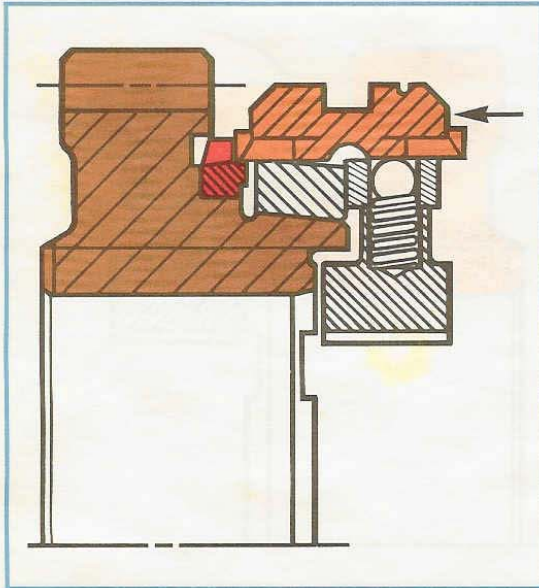

Figure 1-58, Sleeve and Clutch Tooth Chamfers in Contact.
- When there is no difference in rotating speed between the speed gear and the blocking ring/sleeve, the sleeve chamfers easily slide past the tooth chamfers of the blocking ring as the sleeve makes its way to the speed gear (Figure 1-58). The synchronizer sleeve tooth chamfers now contact the chamfered clutch teeth of the speed gear.